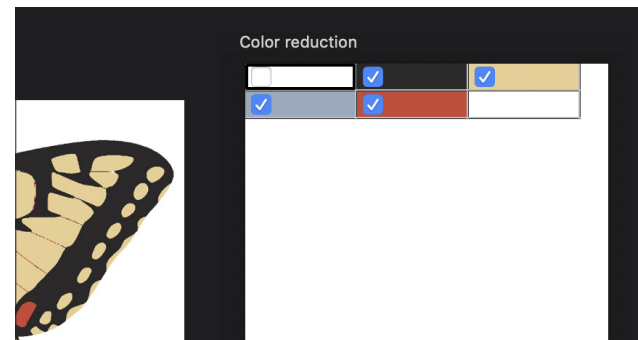

Figure 31
3. Next, you will see all of the colors in your design in the Color Reduction screen. Select the colors you want to digitize. See Figure 31. **Note:** If your image has a white background, the software may automatically select white as a color. Uncheck it if that is the case.